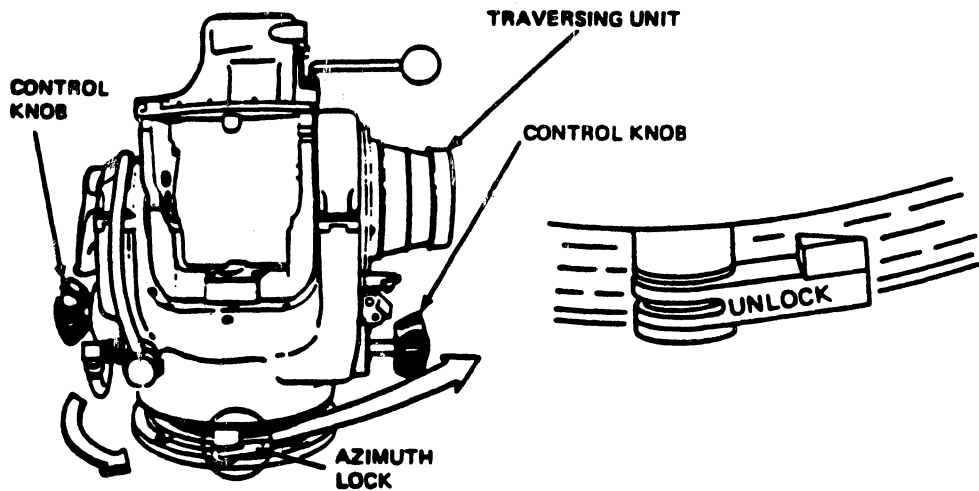

Fig 2-25. Installing traversing unit--continued.
Step 4. Set the azimuth lock to the UNLOCK position (fig 2-25). Using the control knobs, turn the traversing unit counterclockwise 45 degrees.